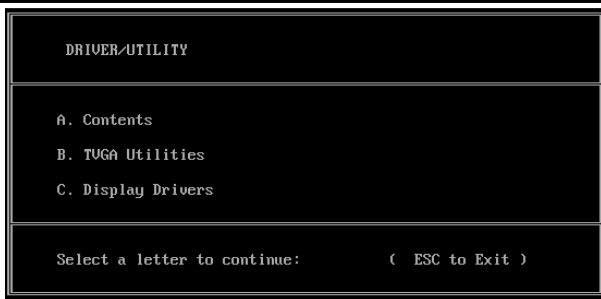

Figure 3-27.
4. Files and sub-directories will be expanded into the newly created directory. TVGAUTIL. A new menu will then be displayed on the screen, showing a list of on-line instructions (see Figure 3-27).